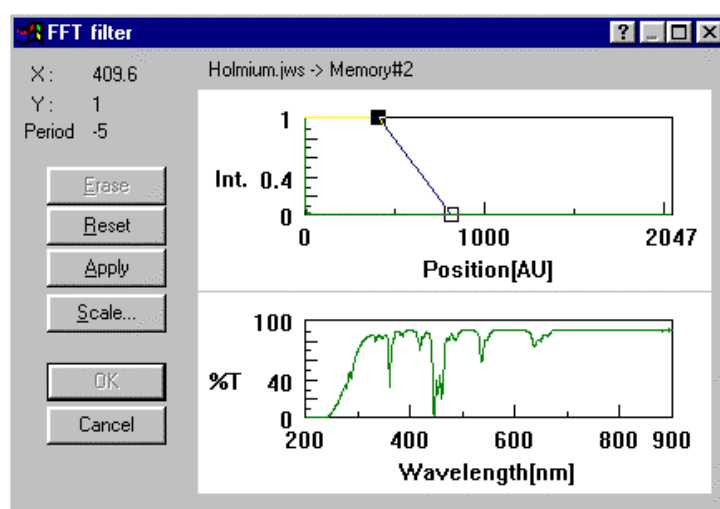

Fig. 2.26 [FFT filter] dialog box
*Note: Figure 2.26 shows spectra before execution of FFT filter, therefore, the upper and lower spectra in the spectrum display area are the same. After execution, the resulting spectrum is displayed in the lower half of the spectrum display area.*